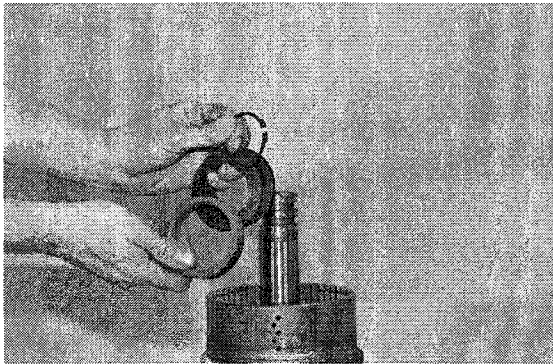

Figure 94
Alternate five (5) springs, see note figure 94.